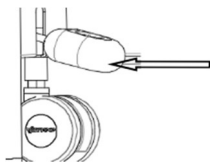

Figure 1 Foot pedal position
- Push the lever down (it is recommended to use your feet to push) to activate the casters at the rear and when on the ground the table is in a moving status.(Figure 1)
- Push the lever up (it is recommended to use a foot pedal) and the casters are in the retracted status. At this time, the table is in a fixed position.(Figure 1)